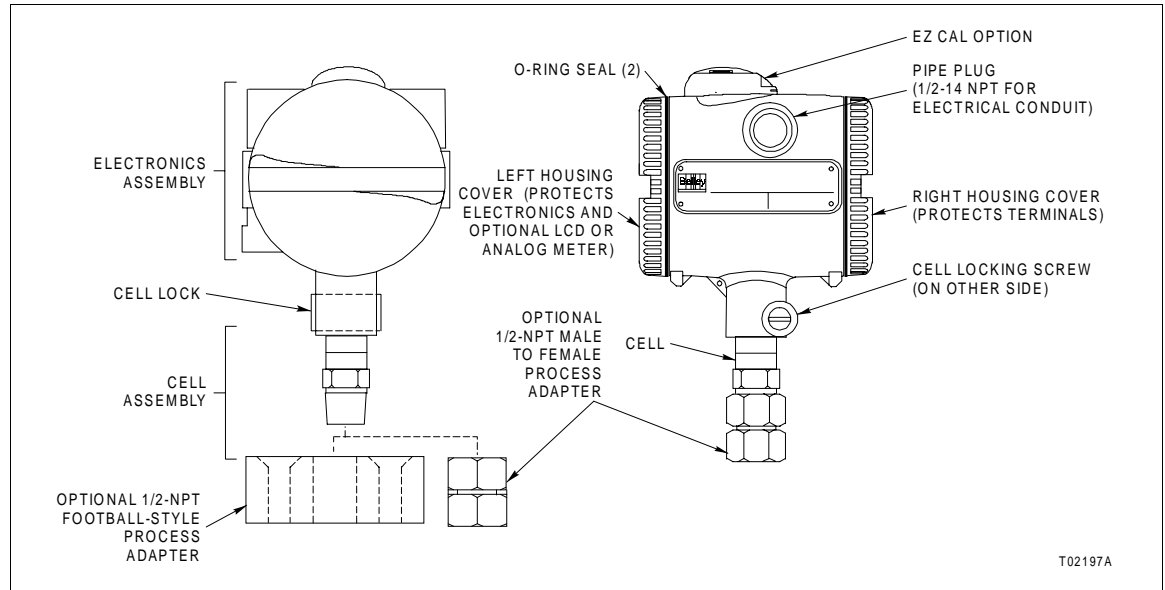

Figure 8-2. External Transmitter Components
2. Remove the left housing cover from the electronics housing (Fig. 8-2).
6. Use the 4-mm Allen wrench to remove the cell locking screw (Fig. 8-2).
7. Remove the cell lock (Fig. 8-2).
9. Remove the cell and cover O-rings (Fig. 8-2).
6. Install the cell lock and tighten the cell locking screw (Fig. 8-2).
2. Remove the housing covers from the electronics housing (Fig. 8-2). If the housing covers **do not** require replacing, go to Step 3. If the housing covers **do** require replacing, go to Step 6.
3. Remove the housing cover O-rings (Fig. 8-2).
8. Refer to **Section 9** and determine the proper cell O-ring (Fig. 8-2).